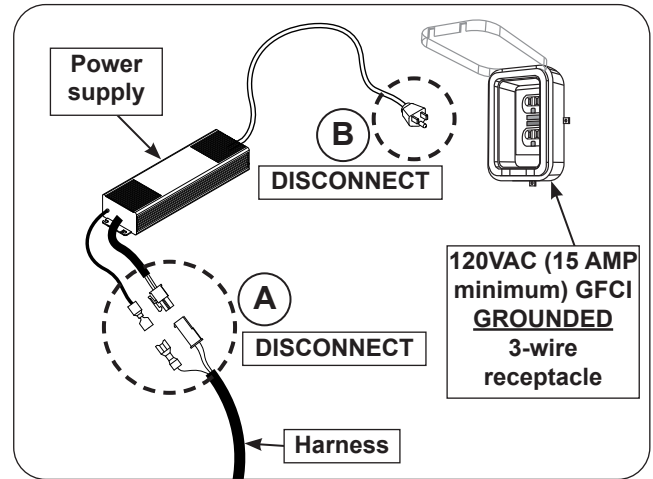

Fig. 42-1 Perform system reset
2. Disconnect the harness from the power supply (see Fig. 42-1, A).
3. Disconnect the power supply from the power source. (see Fig. 42-1, B).